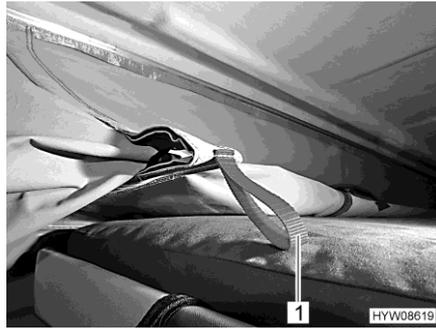

Fig. 61 Retraction device
- Pull in the canvas by the red tabs (Fig. 61,1) of the retraction device.